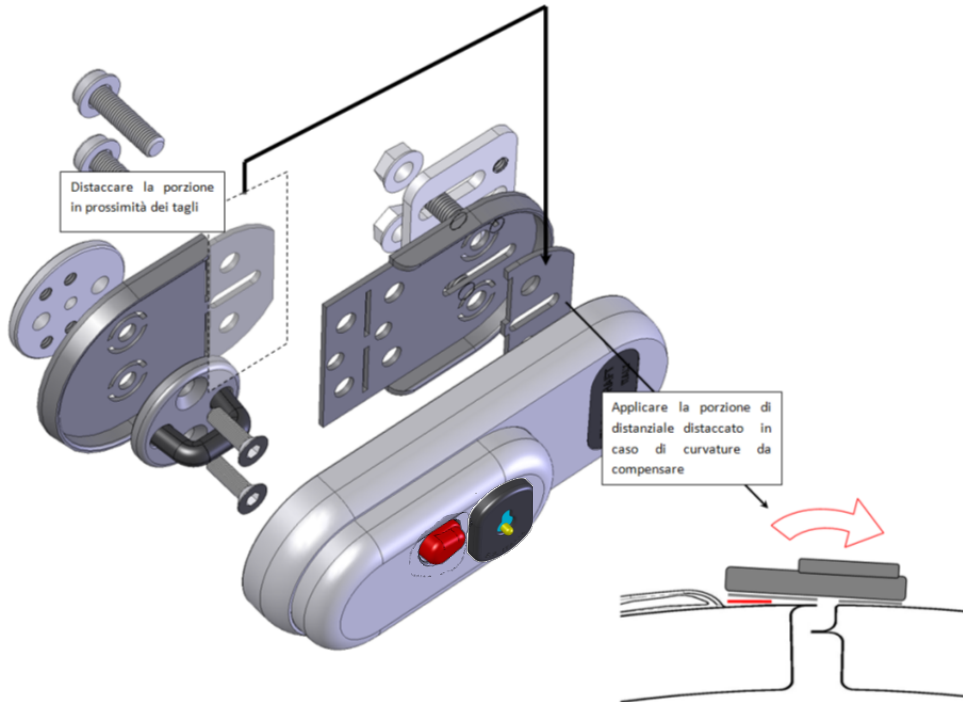

Fig.25
To compensate for any misalignments or particular curvatures of the doors, a second spacer can be applied under the armor, cut out in correspondence with the prepared cuts. In this way the padlock will curve on itself and allow the striker to align correctly with its seat on the armor (fig. 25).
Step 3: Insert the spherical terminal in the appropriate seat (fig.25).
(fig.25)